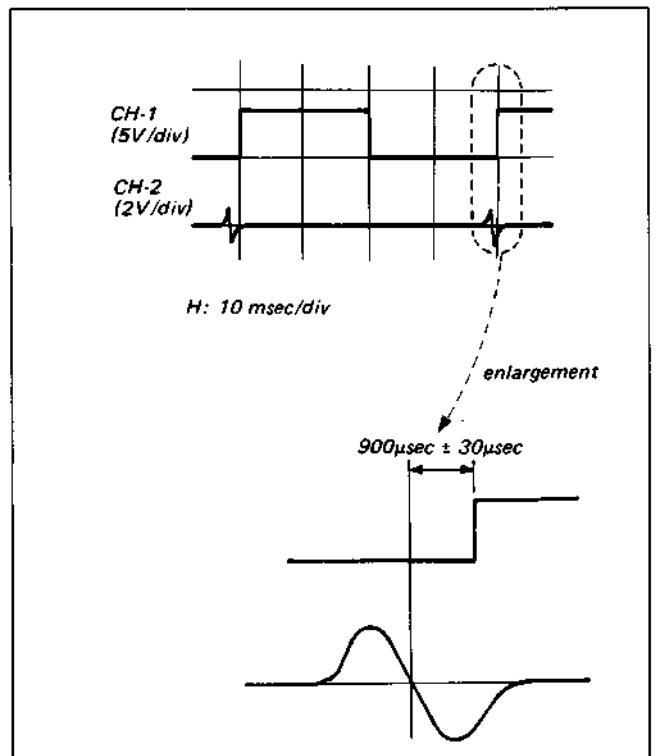
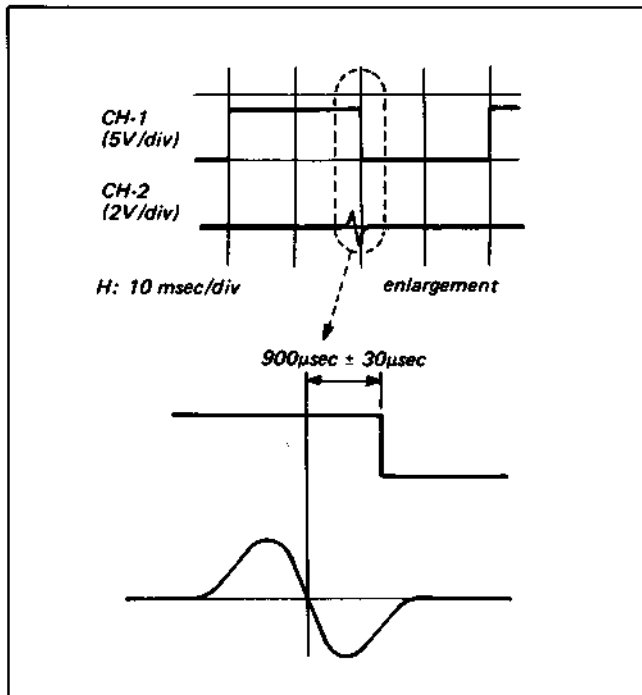

Fig. 5-7. RF switching position adjustment (1)
Fig. 5-8. RF switching position adjustment (2)
- i) Adjust to $900 \mu\text{sec} \pm 30 \mu\text{sec}$ with RV304 (See Fig. 5-7.)
- ii) Change connection of CH-2 only to Pin ③ of IC301.
- iii) Adjust to $900 \mu\text{sec} \pm 30 \mu\text{sec}$ with RV305 (See Fig. 5-8.)